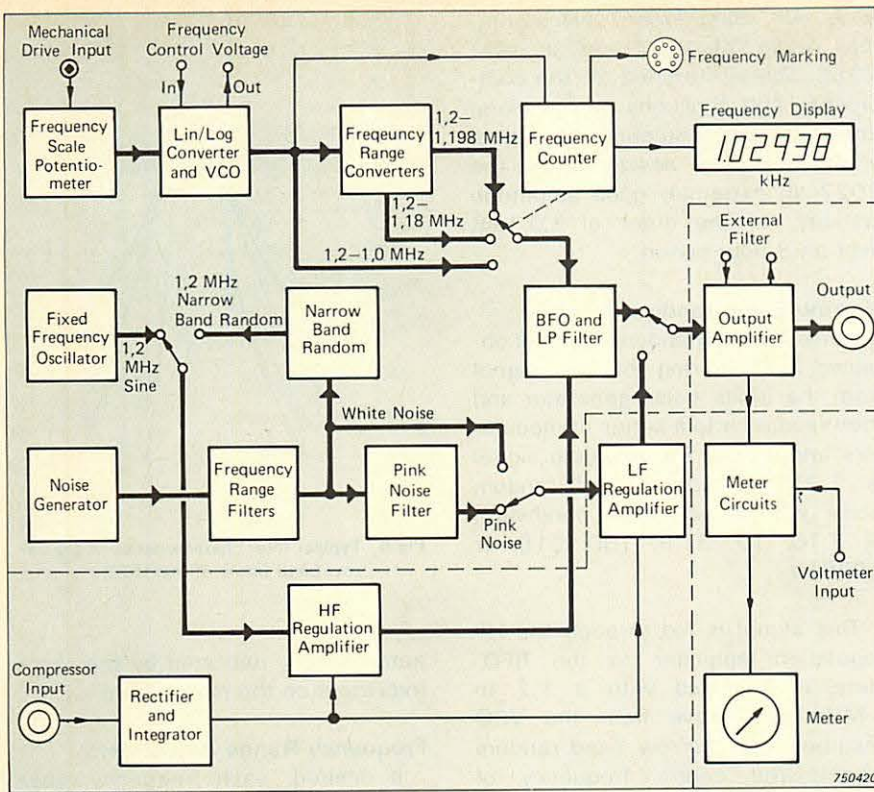

Fig.2. Simplified block diagram of the Sine Random Generator
A simplified block diagram of the Sine Random Generator is shown in Fig.2. The instrument contains four main sections, namely a generator section, a compressor section, an output section, and a meter section.
This signal is fed through the HF regulation amplifier to the BFO. Here it is mixed with a 1,2 to 1 MHz sine wave from the VCO resulting in a narrow band random signal, the centre frequency of which can be varied from 2 Hz to 200 kHz. Other frequency ranges are available from the VCO (see Fig.2), and these are used to make the three linear ranges:
A low frequency (LF) regulation amplifier is used for the white and pink noise modes as these are filtered signals from the noise generator. The sine and narrow band random signals are results of high frequency modulation, and therefore a HF regulation amplifier is used in these modes as indicated in the block diagram in Fig.2.